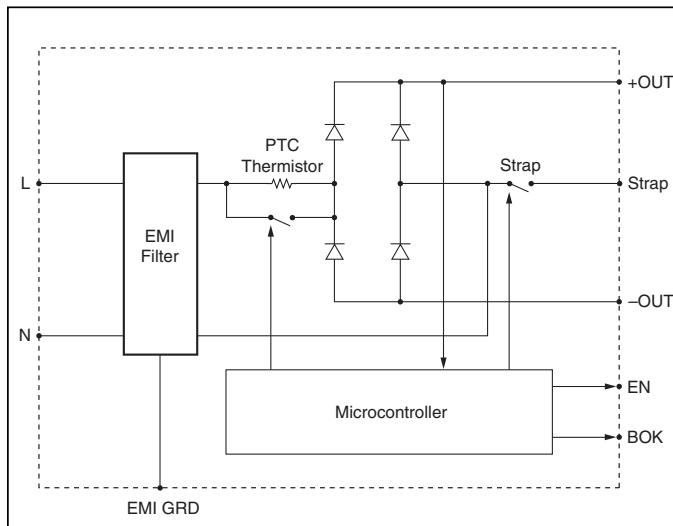

Figure 7 — Functional block diagram: autoranging rectifier
The switch that bypasses the inrush limiting PTC (positive temperature coefficient) thermistor is open when power is applied, as is the switch that engages the strap for voltage doubling. (*see Fig. 7*). In addition, the converter modules are disabled via the Enable (EN) line, and Bus-OK (BOK) is high.